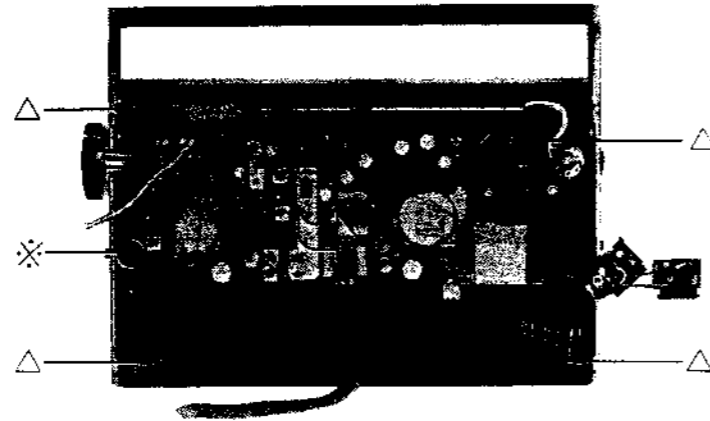

Fig. 4-1 Chassis removal
1. Remove four screws marked with Δ in Fig. 4-1.
2. Unsolder two TONE switch lead wires marked with * in Fig. 4-1.